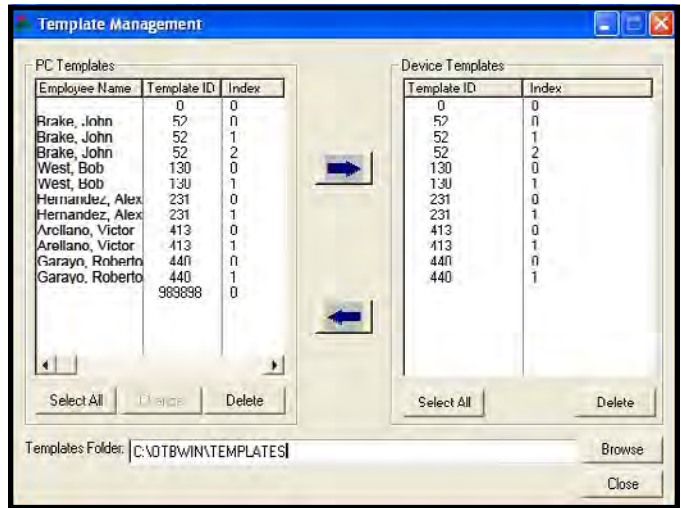

Figure 60. Out-of-the-Box™, Template Management window
- V. The “Template Management” window will open (see Figure 60). This window will allow you to easily copy your templates from the Smart Clock to your PC for safe-keeping. Please note that while this window is open, users will not be able to punch in or punch out at the Clock. “MAINTENANCE PLEASE WAIT” will be displayed on the clock’s screen.